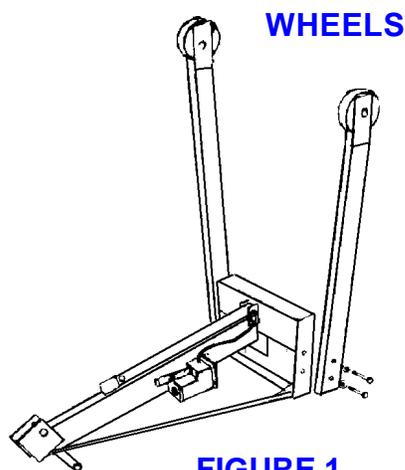

FIGURE 1.
**Step #1:** Place tower on floor, push-handle down. See figure 1.
**Step #2:** Attach each leg using two 3/8-16x3" grade 5 bolts, flat washers, and lock nuts as shown. Wheels should be parallel when assembled properly. See figures 1 & 2.